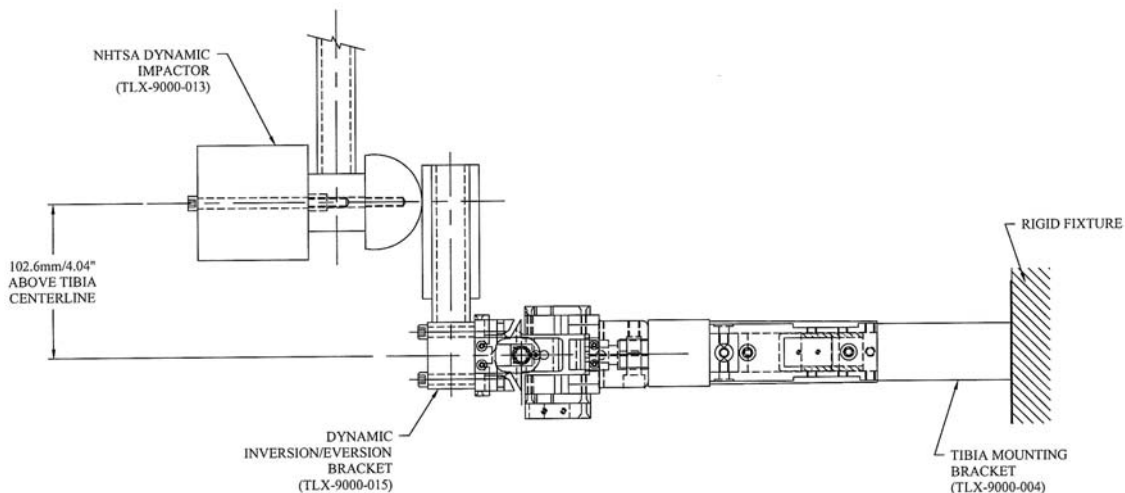

Figure 10. Dynamic Inversion/Eversion Impact Test Setup
These tests consist of two impacts (one each for inversion and eversion) to a padded bracket (Fig. C-5) which is attached to the sole plate of the foot. The bracket is attached such that the line of impact is offset from the longitudinal axis of the tibia, and the resulting motion of the foot exercises the inversion and eversion properties of the ankle assembly. The leg is held rigidly such that the X-Z plane of the foot and lower leg are horizontal as shown in Figure 10. The impact surface of the bracket is covered with Ensolite padding to reduce noise transmission through the bracket into the ankle and load cell.
5. Mount the leg to the tibia mounting fixture at the lower flange, such that the X-Z plane of the foot and lower leg are horizontal as shown in Figure 10. The test fixture must be rigidly secured so that it does not move or vibrate excessively during impact.
9. Adjust the fixture so that the longitudinal centerline of the pendulum arm and the struck surface of the inversion/eversion bracket are vertical at impact, within $\pm 0.5^{\circ}$ and the point of impact is 102.6 ± 2.5 mm (4.04 ± 0.1 in) above the ankle X-axis pivot point (Figure 10). (Note: The impact location at 102.6 mm above the pivot point was selected to maintain consistency with the ball of foot impact location, therefore minimizing the time required for setup.)